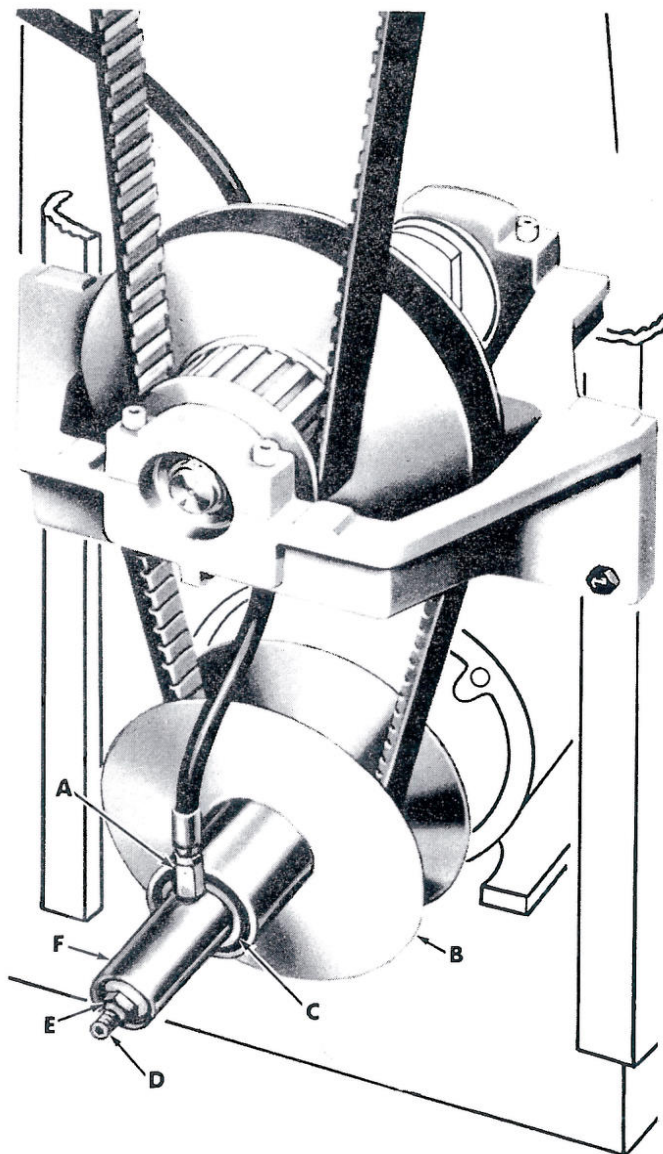

Figure 24
1. Hold nut (E, fig. 24) with wrench, and turn shaft (D) with a socket set screw wrench -- clockwise if speed is too low, counter-clockwise if speed is too high.
2. Measure distance from end of shaft (D, fig. 24) to nut (E). NOTE: Record this dimension.
3. Disconnect fitting (A) and drain oil from unit.
4. While holding shaft (D) with a socket set screw wrench, remove nut (E) and washer.
6. Pull hydraulic cylinder (F) and outer half of variable pulley (B) off the shaft (D).
7. Press hydraulic cylinder (F) with bearing (C) from variable pulley (B).
8. Replace the two "O" rings on shaft (D).
9. Press new hydraulic cylinder with bearing into variable pulley hub (B), then slide the assembly onto shaft (D) and pulley hub.
10. Install sleeve and washer on shaft (D).
11. Start nut (E) on shaft (D).
12. Hold the shaft in place with a socket set screw wrench and then turn nut onto rod until distance from the end shaft (D) to nut (E) is the same as step 3.